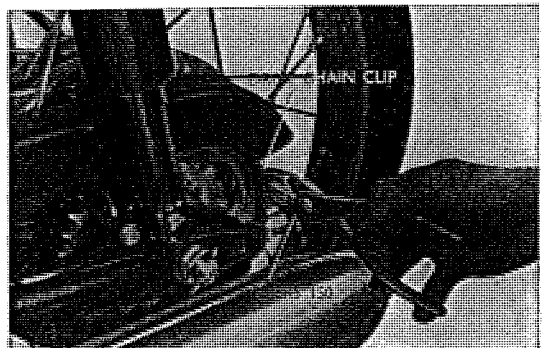

Fig. 4.83 Removing drive chain
3. By removing the drive chain joint, separate the chain. (Refer to Fig. 4.83)